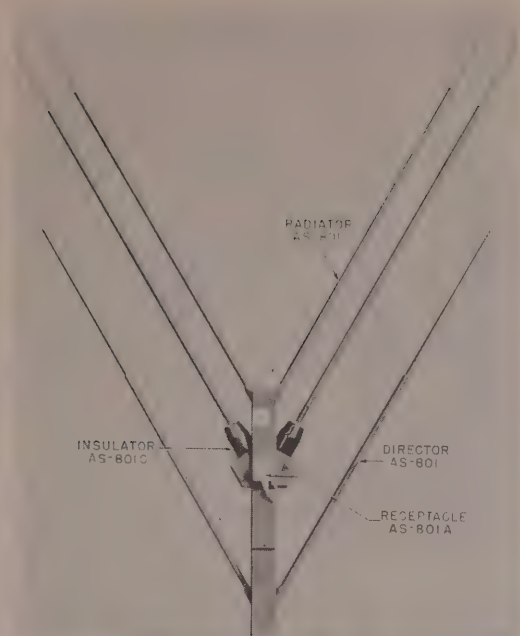

Figure 1-18. Antenna Assembly AS-155/CRN-10
(2) The electrical line matching elements are mounted on the top of the base and are permanently adjusted by the manufacturer. In the operating position, the unit is tied down by anchors and chains.
k. ANTENNA ASSEMBLY AS-155/CRN-10.—This antenna is a wideband folded dipole-antenna with director which operates on any of the specified frequencies without returning and radiates nearly 100 percent horizontally polarized energy in a substantially cardioid-type radiation pattern. Seven antennas are used. (See figure 1-18.)